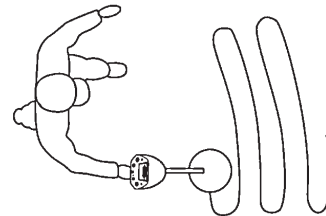

Figure 11
3. Sweep the Search Coil (23) slowly back and forth in an arc, keeping it about 1/2” to 2” from the ground. See Figure 11, above.